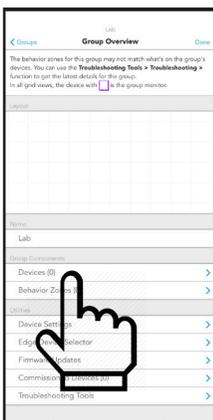

Figure 10: Groups Overview
1. From the **Group Overview** screen, tap the **Devices** link (Figure 10).